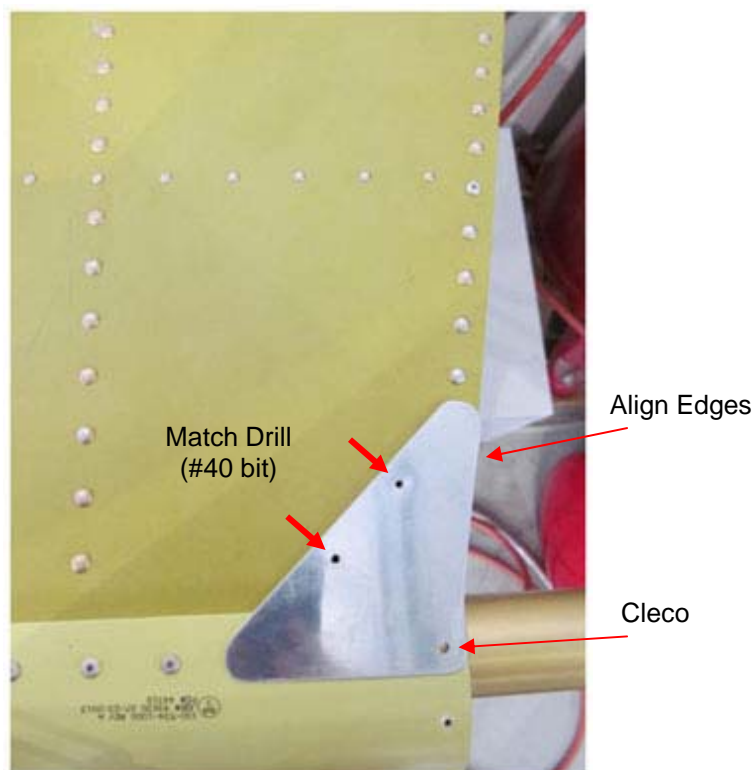

Figure 5-2: Fit Doubler to Corner and Match Drill
2. Line up the doubler in the corner and cleco in place using the forward, inboard pilot hole (**Figure 5-2**).